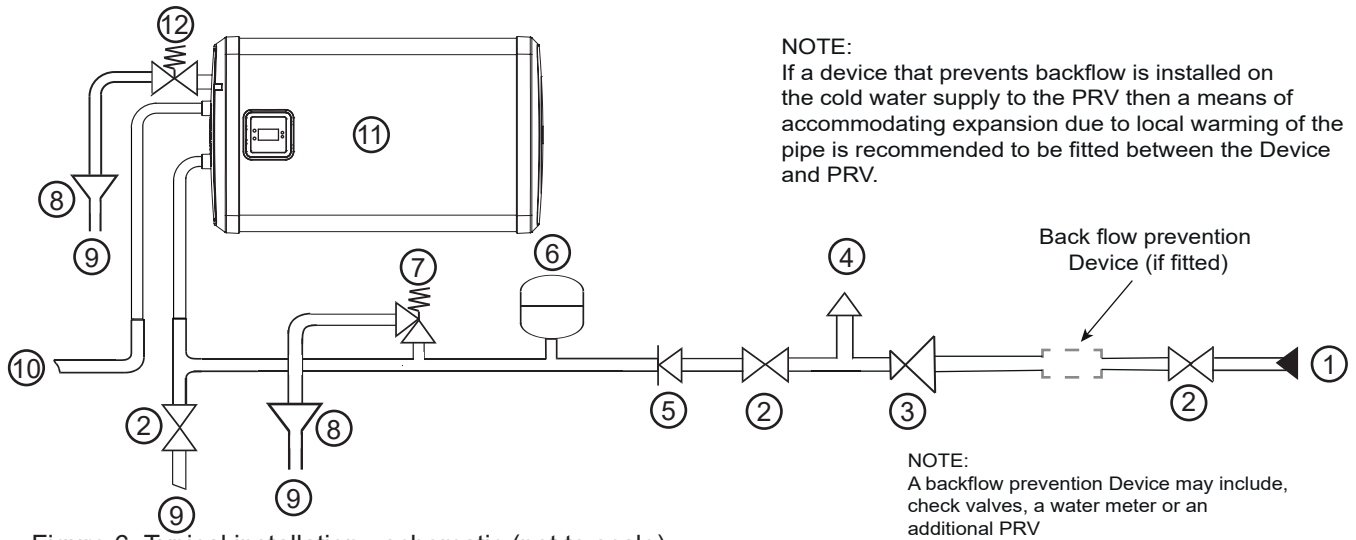

Figure 6: Typical installation - schematic (not to scale)
Refer to the installation schematic (figure 6, page 11) for details on the pipework layout. Specific details for the discharge pipework layout is also provided in figure 7 on page 14.
- ▶ The location of the expansion vessel should allow access to recharge the pressure as and when necessary (see page 25). See figure 6 page 11 for positioning.